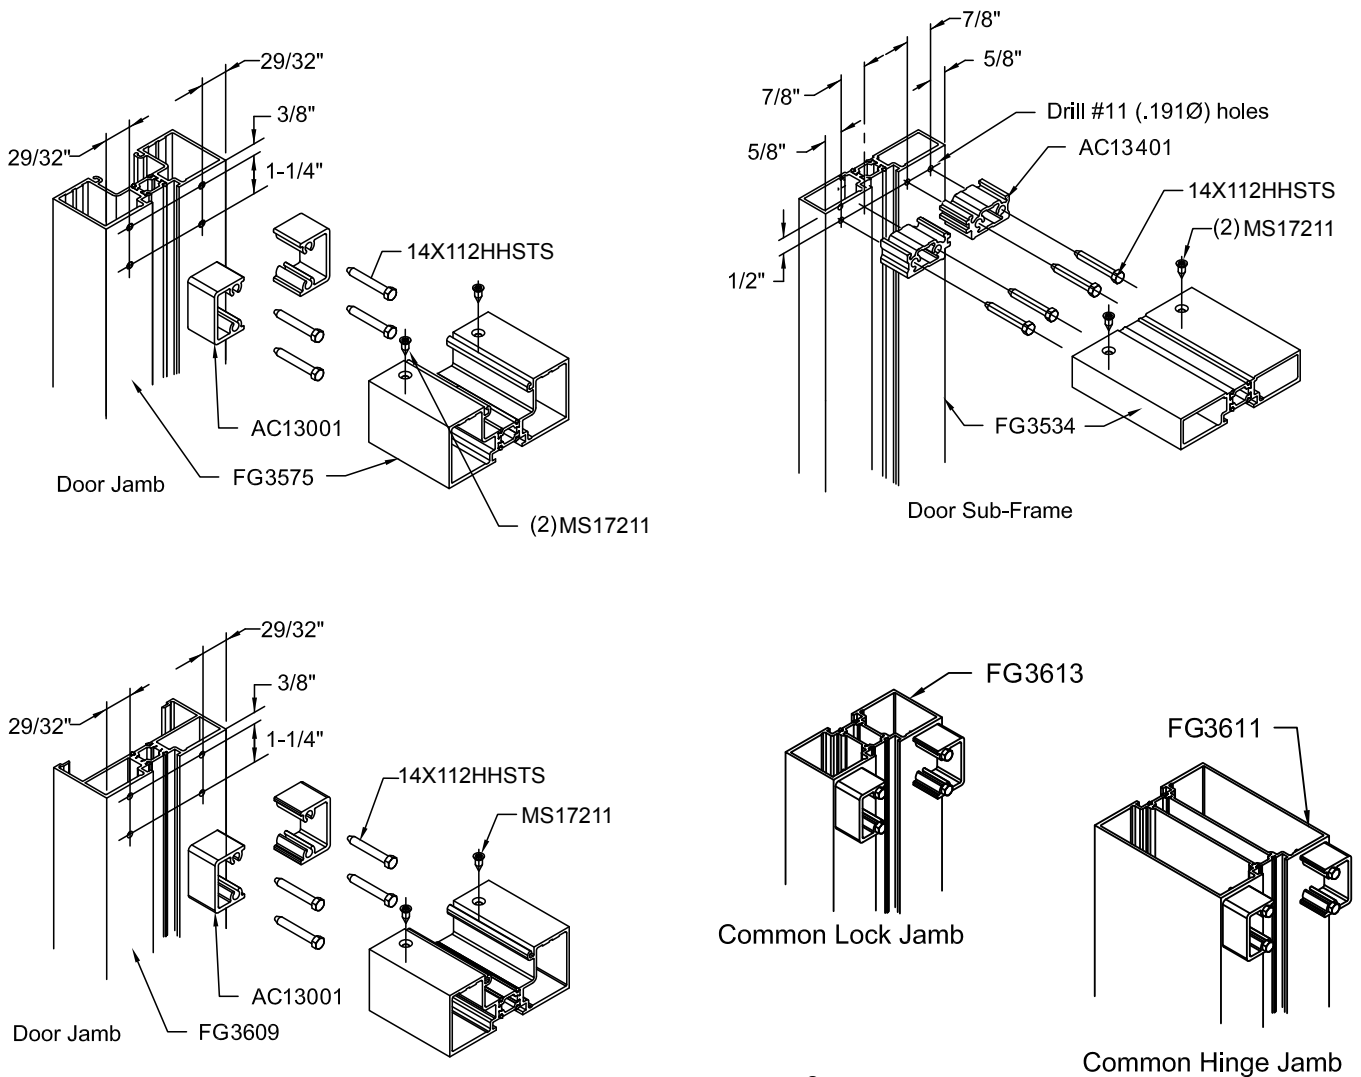

FIGURE 2
1. Attach (2) AC13401 shear blocks to top end of door jambs using (4) 14X112HHSTS hex head fasteners. See FIGURE 2.